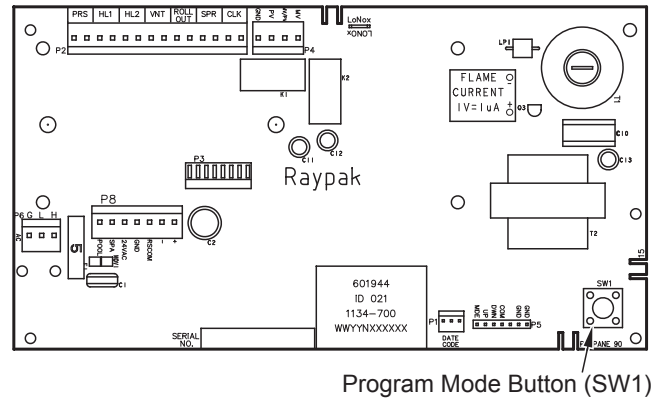

Figure 46. Thermostat Program Button (SW1)
- 1. Remove the four screws holding the control cover, and swing the panel down so the back side of the board is visible. Locate the Program Mode button (SW1). See **Figure 46**. Press and hold the button for 5-7 seconds until SET FACTORY DEFAULTS appears on the display. Release the program button.